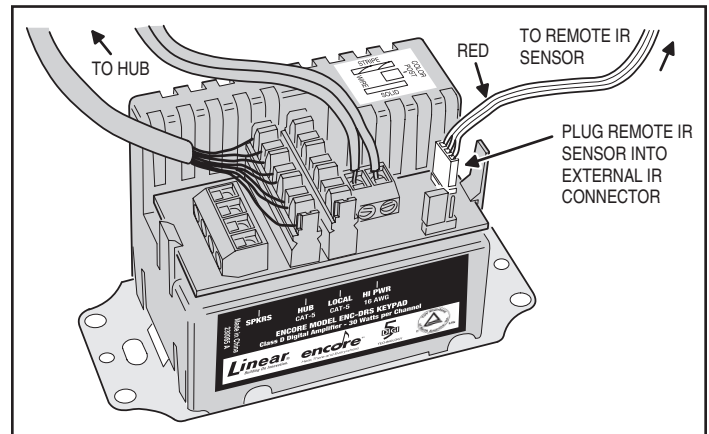

Figure 16. External IR Target Connections
- Attach the 3-pin header block to the 3-pin **J3B** header on the keypad. Note: Red wire position (see Figure 16).